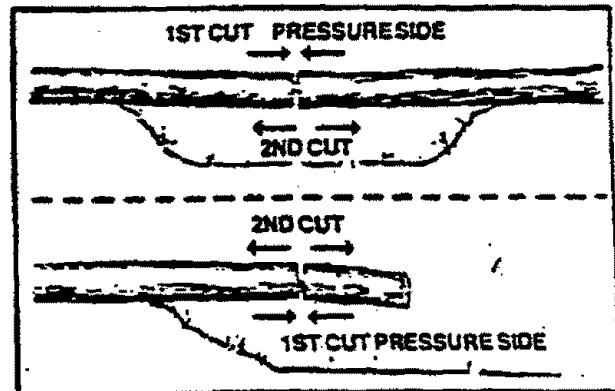

Figure 21
- d. Give special attention to logs under strain to prevent the saw from pinching. Make the first cut on the pressure side to relieve the stress on the log. Figure 21.